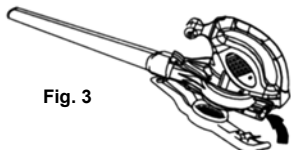

Fig. 3
4. Lift handle to lock inlet cover into place at rear of motor. (Fig.3)